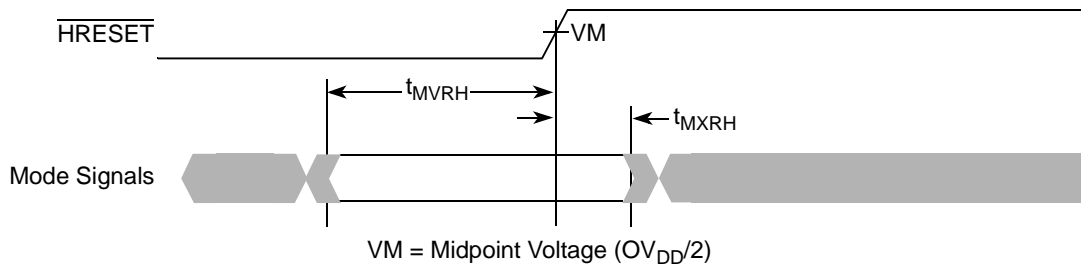

Figure 5. Mode Input Timing Diagram
Table 9 provides the processor bus AC timing specifications for the MPC7455 as defined in Figure 4 and Figure 5. Timing specifications for the L3 bus are provided in Section 1.5.2.3, “L3 Clock AC Specifications.”
- The symbology used for timing specifications herein follows the pattern of  $t_{(\text{signal})(\text{state})(\text{reference})(\text{state})}$  for inputs and  $t_{(\text{reference})(\text{state})(\text{signal})(\text{state})}$  for outputs. For example,  $t_{\text{IVKH}}$  symbolizes the time input signals (I) reach the valid state (V) relative to the SYSCLK reference (K) going to the high (H) state or input setup time. And  $t_{\text{KH OV}}$  symbolizes the time from SYSCLK(K) going high (H) until outputs (O) are valid (V) or output valid time. Input hold time can be read as the time that the input signal (I) went invalid (X) with respect to the rising clock edge (KH) (note the position of the reference and its state for inputs) and output hold time can be read as the time from the rising edge (KH) until the output went invalid (OX).
- The setup and hold time is with respect to the rising edge of  $\overline{\text{HRESET}}$  (see Figure 5).
Figure 5 provides the mode select input timing diagram for the MPC7455.